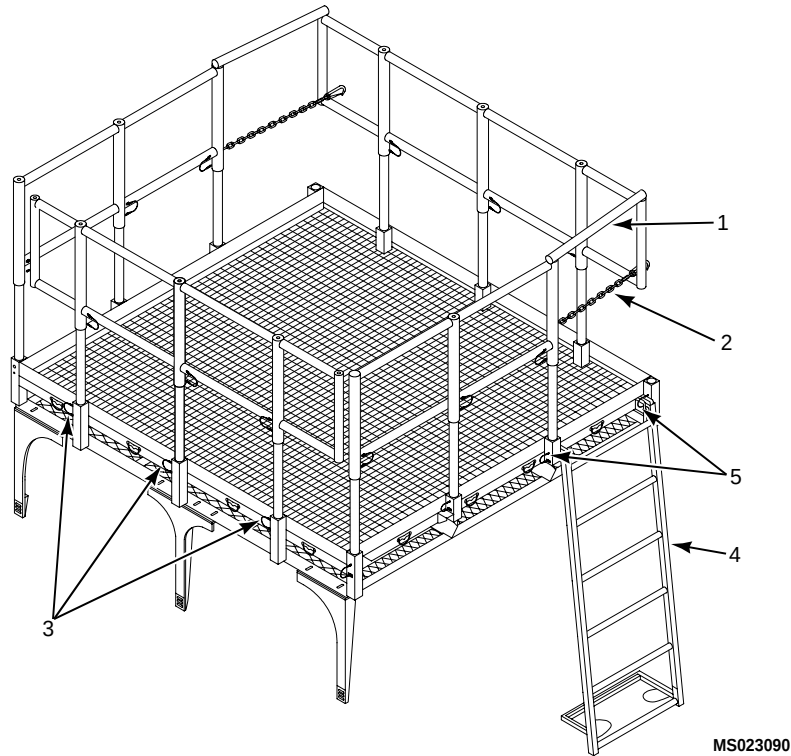

Figure 1. Removing Handrail Assemblies and Ladder
3. Unlatch safety bars (1) and safety chains (2). (Figure 1)
4. Remove locking pin (3) from each handrail nest, extract handrails.
5. Descend ladder (4) to ground. Remove locking pins (5) from ladder (4).
6. Lift ladder (4) from slots.